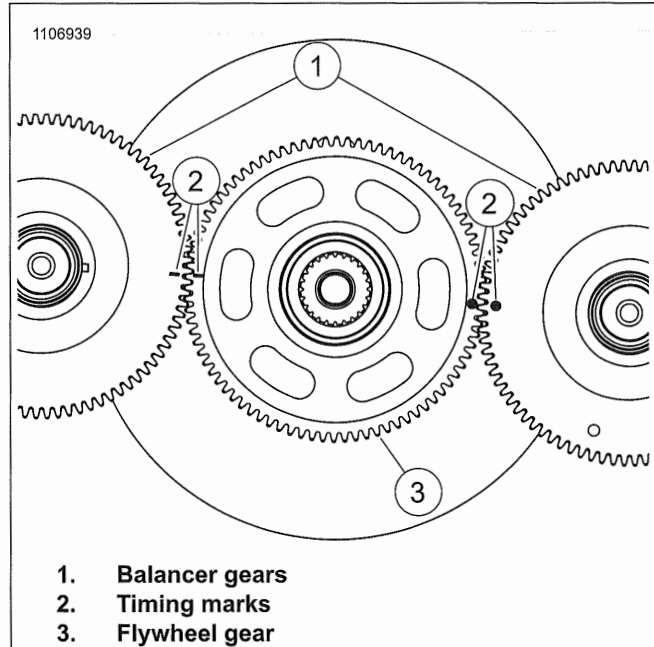

Figure 4-62. Balancer Timing Marks
- See Figure 4-62. When aligning timing marks match dash to dash and circle to circle.
3. See Figure 4-62. Install balancers.
- b. Install balancer while aligning timing marks (2).